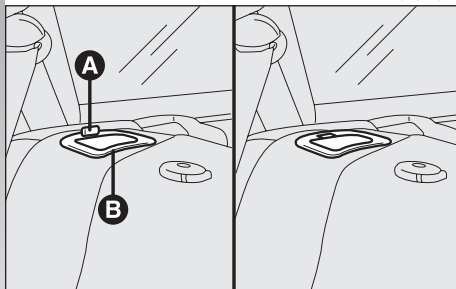

fig. 46
Proper backrest coupling is guaranteed when button (A-fig. 46) set near each handle (B) is retracted in the handle.